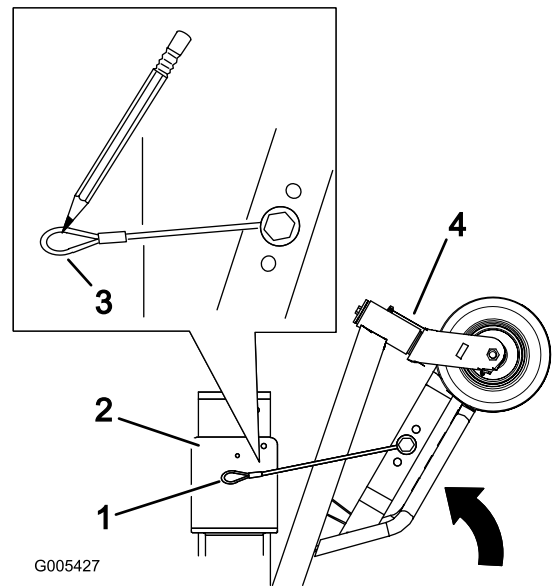

Figure 13
2. Raise the sulky and position the lanyard loop until it is in a clear location on the pulley guard, both on the outside and inside of the guard (Figure 13).
Important: The sulky must be at least 1-1/2 inches (3.8 cm) from any contact point such as the machine handle or the gear shift lever (when pushed to the right or left) on gear drive machines (Figure 13).